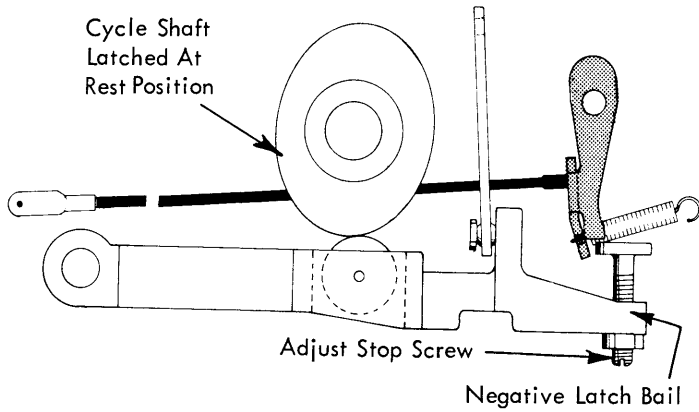

FIGURE 53. Negative 5 Latch Stop Screw
- b. Adjust the negative-5 latch stop screw so that the negative-5 latch (Fig. 53) will reset simultaneously as the check pawl drops into the notch on the check ratchet at the rest position.